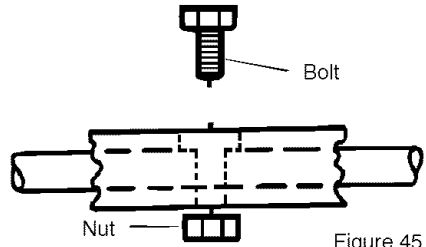

Figure 45
3. Align the hole in the auger with the hole in the auger shaft. Install the new **bolt** and **nut**. See Figure 45.